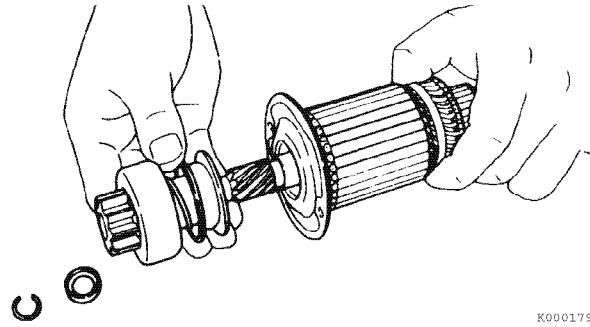

Figure 8-30
3. Install the retaining ring in groove in the shaft. Slide the pinion stop over the retaining ring (Figure 8-30).